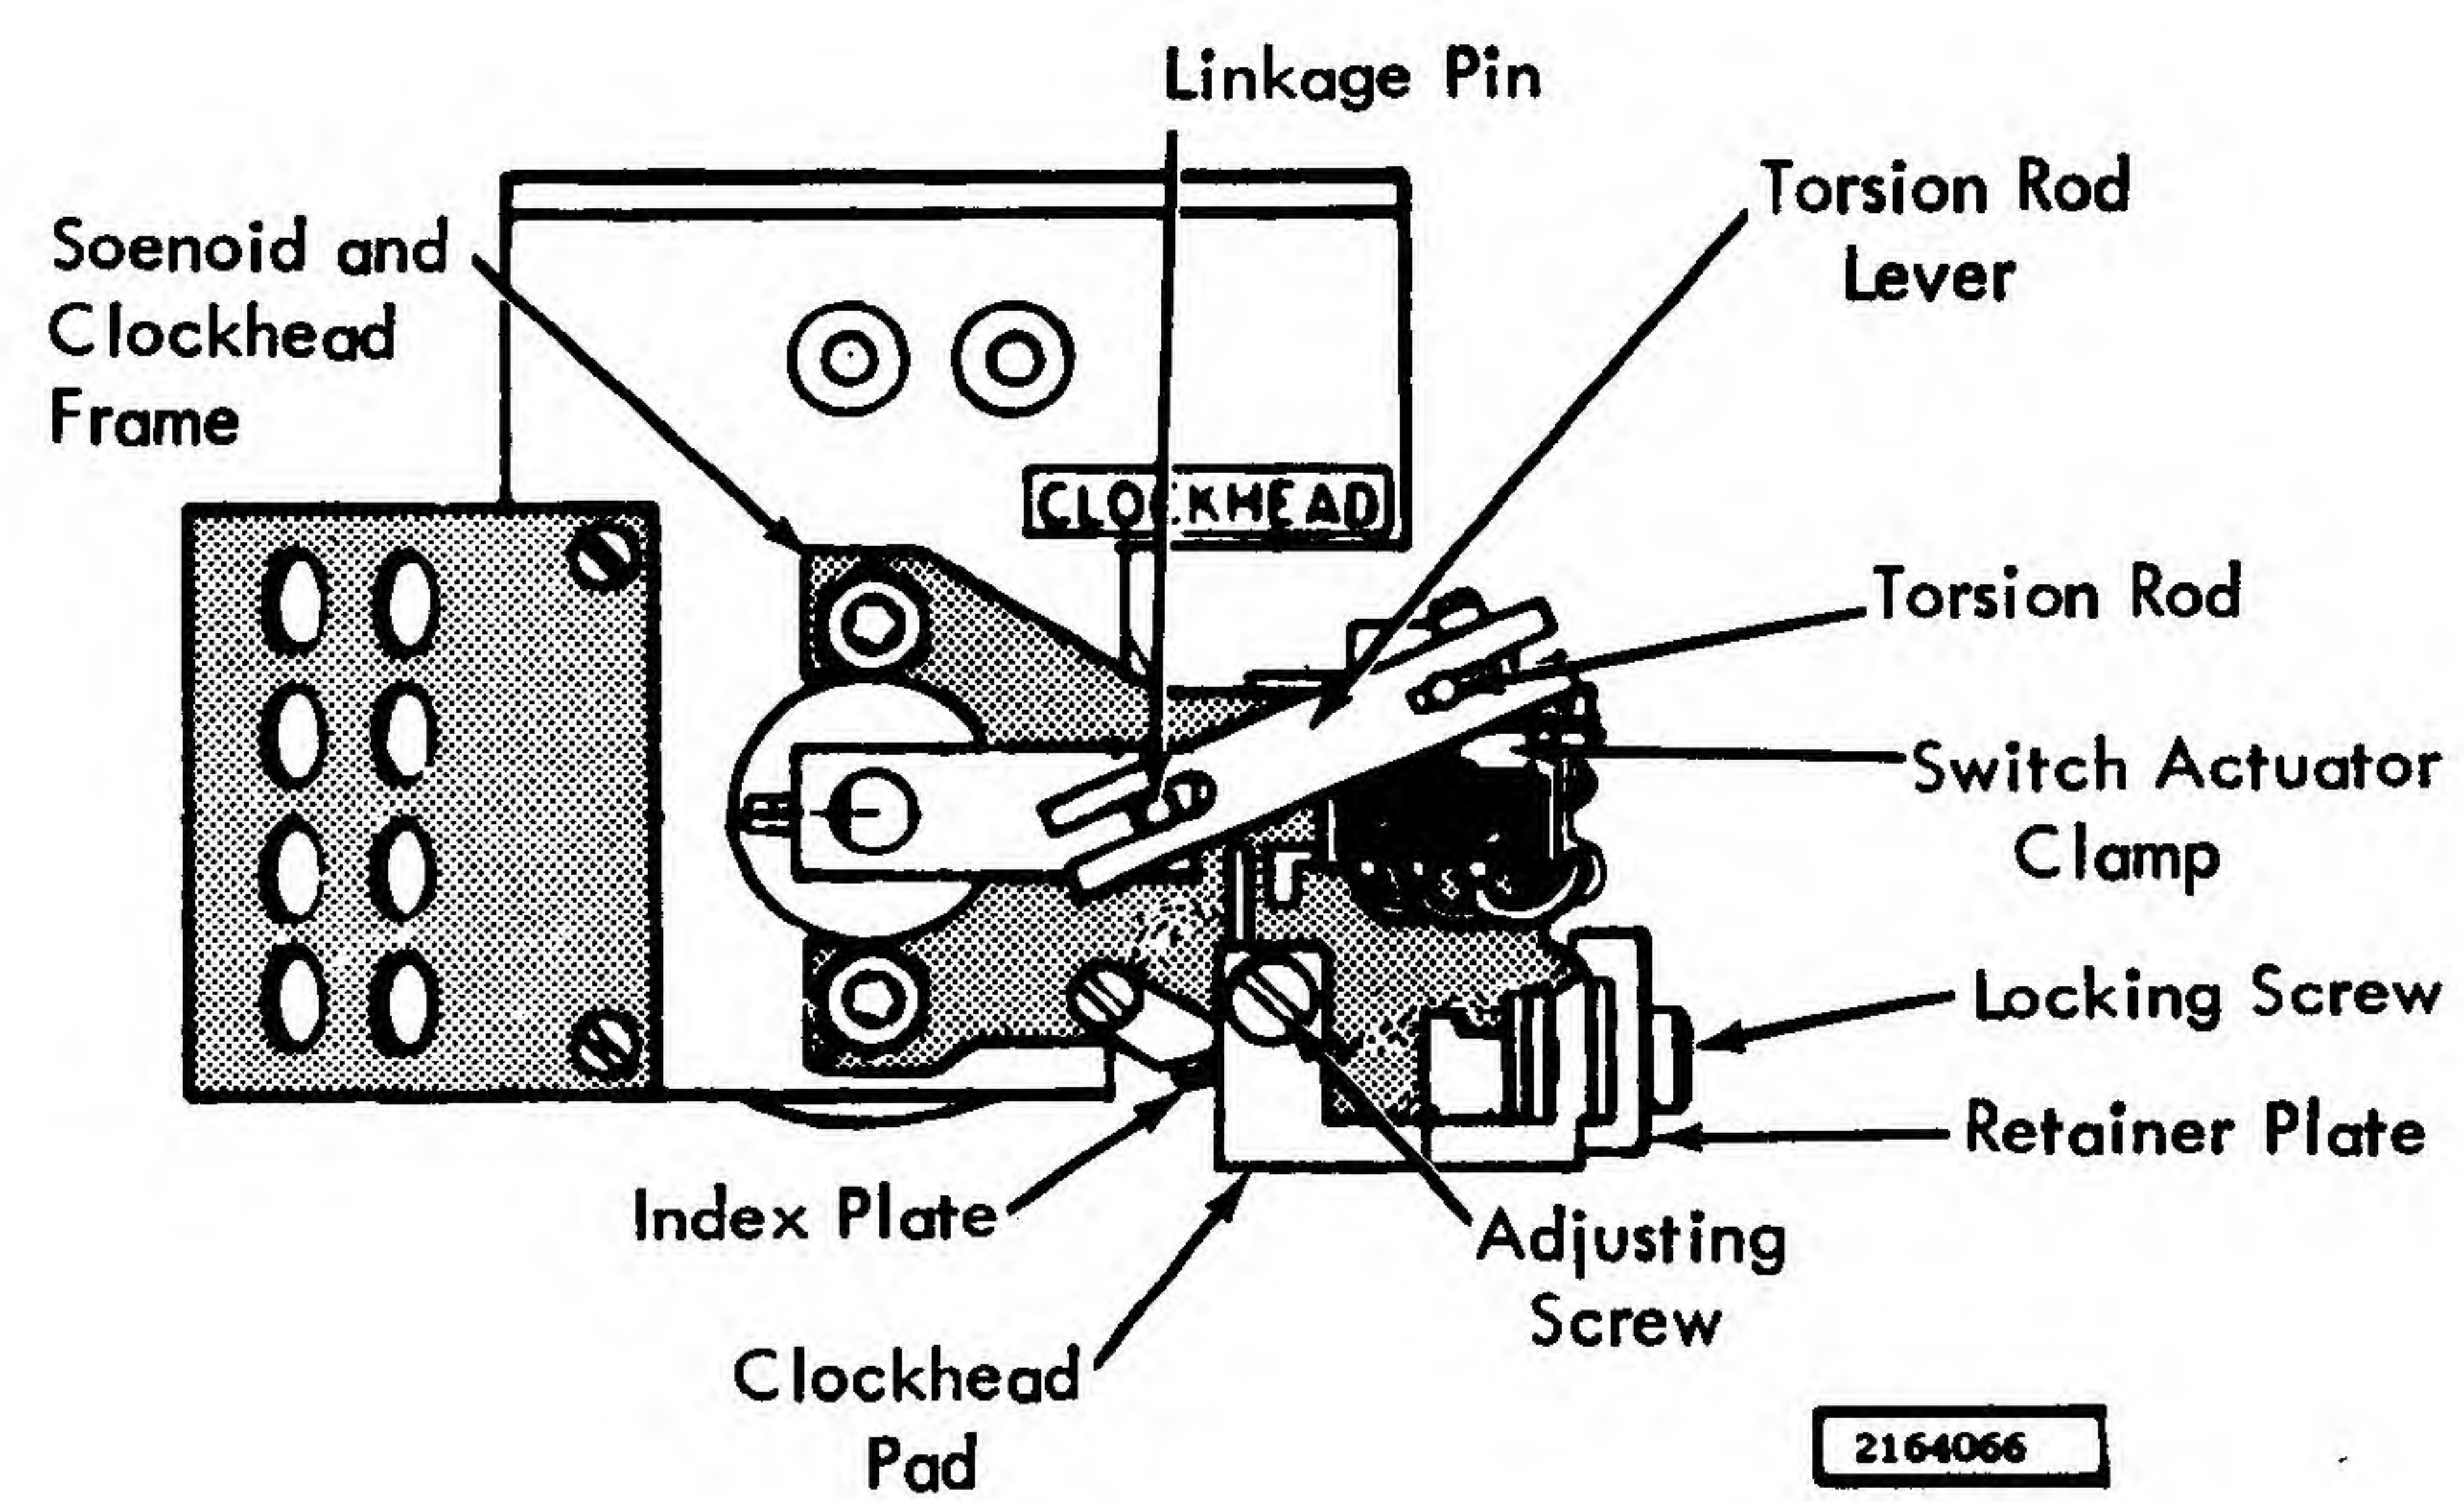

Figure 3-31 Clock Head Assembly
six (640 kc) clock tracks each are recorded at intervals marked on the clock indexing plate (Figure 3-31).
3.3.1 CLOCK HEAD AS AN ASSEMBLY (Figure 3-31)
With solenoid energized and head loaded, the torsion rod lever (Figure 3-31) should be clamped on the torsion rod in such a position that 260 + - 10 grams are required at point "x" to lift the torsion rod off the linkage pin (switch should not be actuated during this time). Adjust switch actuator clamp to close switch when head is properly loaded.